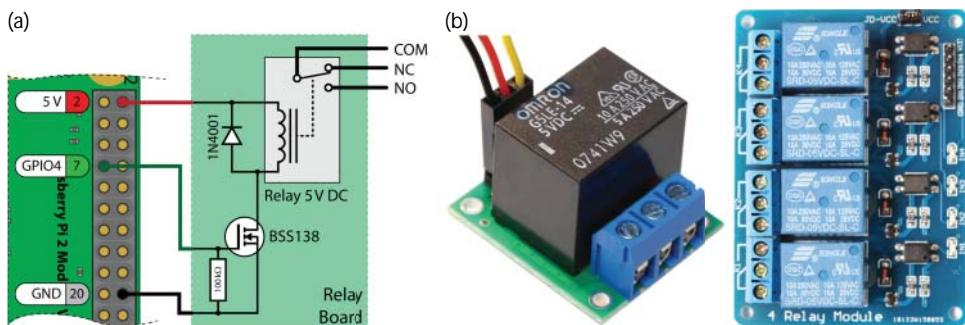

Figure 10-9: (a) Controlling a relay using the RPi, and (b) example relay breakout boards
WARNING The circuit in Figure 10-9 is intended for connection to low-voltage supplies only (e.g., 12 V supplies). High voltages can be extremely dangerous to human health, and only suitably trained individuals with appropriate safety equipment and taking professional precautions should wire mains-powered devices. Suitable insulation, protective enclosures, or additional protective devices such as fuses or circuit breakers (possibly including both current-limiting circuit breakers and earth-leakage circuit breakers) may be required to prevent creating either a shock or a fire hazard. Seek advice from a qualified electrician before installing mains-powered home automation circuitry.
Figure 10-9(a) illustrates the type of circuit that can be used to interface the RPi to a relay. It is important that the relay chosen is capable of being switched at 5 V and that, like the motor circuit, a y back diode is placed in parallel to the relay's inductive load to protect the FET from damage. Pololu (www.pololu.com) sells a small SPDT relay kit (~\$4), as illustrated in Figure 10-9(b), that can be used to switch 8 A currents at 30 V DC using an Omron G5LE power relay. The breakout board contains a BSS138 FET, the y back diode, and LEDs that indicate when the relay is switched to enable—that is, close the circuit connected to the normally open (NO) output. Figure 10-9(b) also illustrates a low-cost four relay breakout board.
The relays on both boards can be connected to a regular GPIO for control. For example, if the relay were connected as shown in Figure 10-9(a), to GPIO 4, it can be switched using the following steps: